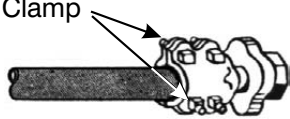

Figure 9-31. Secure Whip Hose to Coupling.
7. Tighten the square head screws and nuts of the Hose Coupling Clamp. Refer to Figure 9-31.